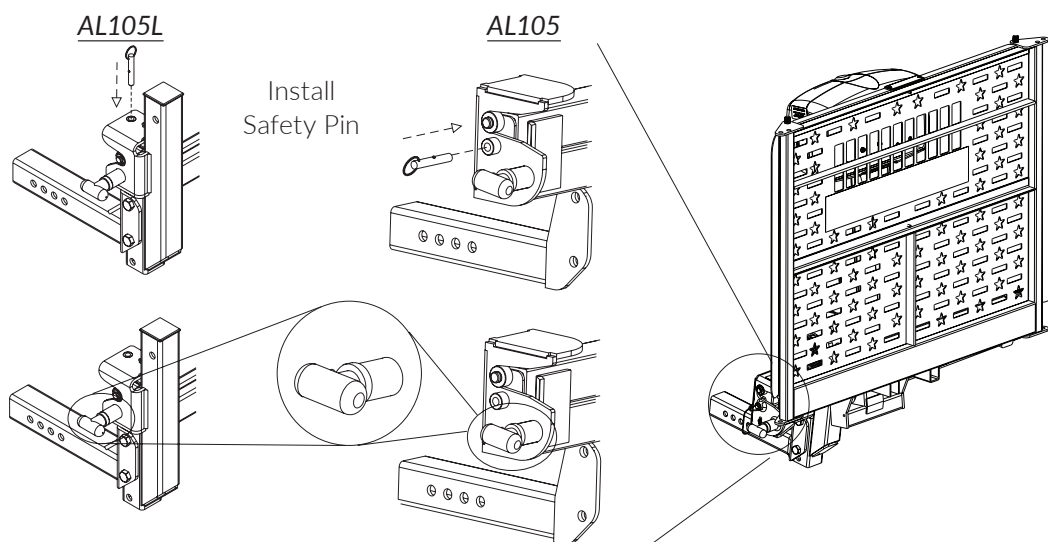

Figure 7-14
3. Install the safety pin. *See Figure 7-14.*
Safety Pin must be installed before transit to avoid damage and injury. *See Figure 7-14.*